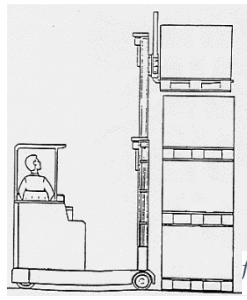

fig. 4
6. When the load is squarely over the stack, bring the mast to the vertical position and lower the load onto the stack gently and smoothly. (See fig. 4)